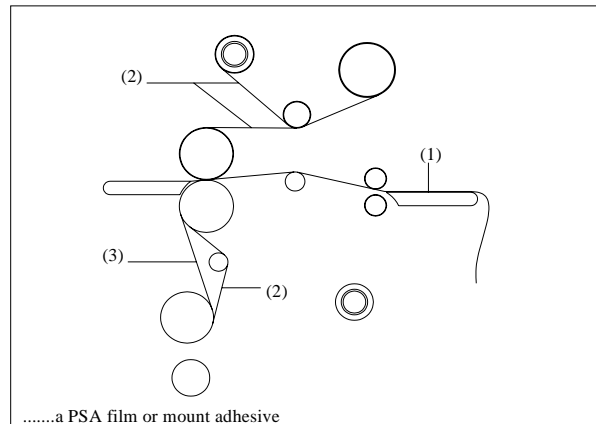

Figure 28
1. Using the rear slitter, cut (1) the output from the web (Fig. 28).
2. Cut (2) remaining top film web between the idler bar and heat roller. PSA film cut the release liner too.
3. Cut (3) the film web between the lower film supply and the idler bar (Fig. 28).